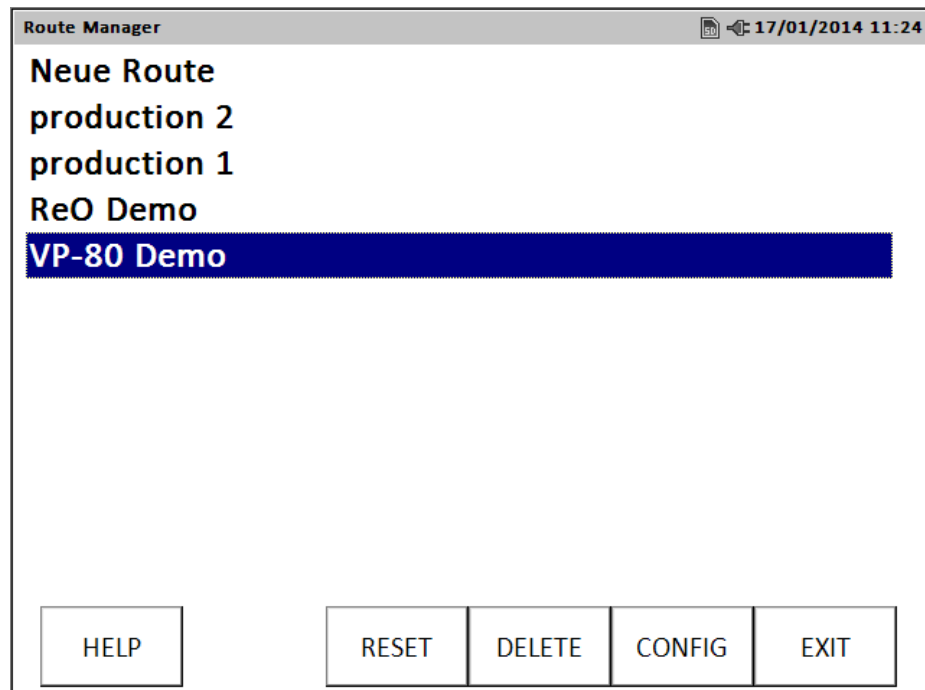

Abb. 23 : Route-Manager
- ☐ Start the DATA COLLECTOR module on the measuring device afterwards. All routes that have been transmitted to the measuring device will be displayed (Fig. 23) .